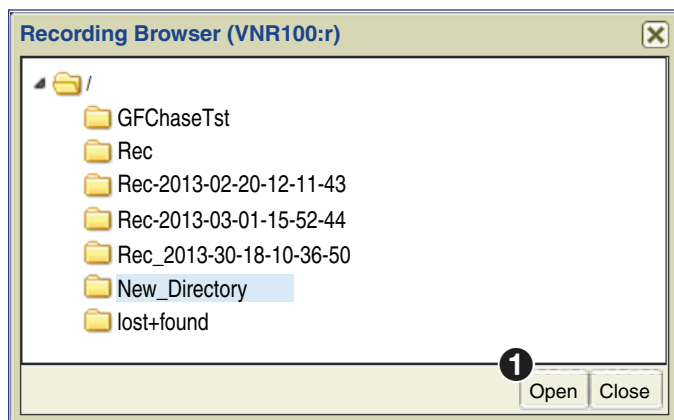

Figure 92. Recording Browser, Select and Open Directory
7. Select the new directory, and click **Open** to continue (see figure 92, 1).